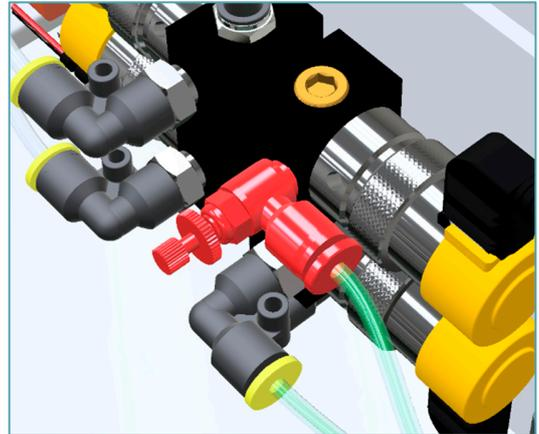

Figure 13: Loosen or tighten the knob on the fitting highlighted in red fitting to reduce or increase the flow.
2. Allow the pump to circulate inert gas for at least 5 minutes. During this time, V14 should open every 2 to 5 seconds, with the pressure reading oscillating around 75kPa. Check for condensation forming in the clear tube coming from the exhaust port. If necessary, open the Testbed's lid and adjust the needle valve as shown in Figure 13 until V14 cycles every 2 to 5 seconds.